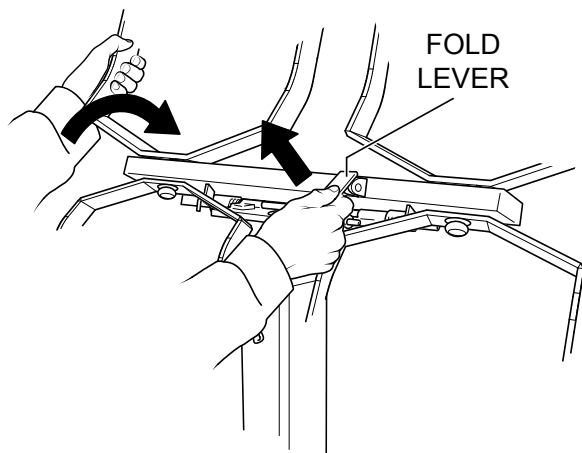

Figure 17. Lowering Lamp Stand
3. Holding the lamp stand with one hand, pull up the fold lever with the other hand (Figure 17).